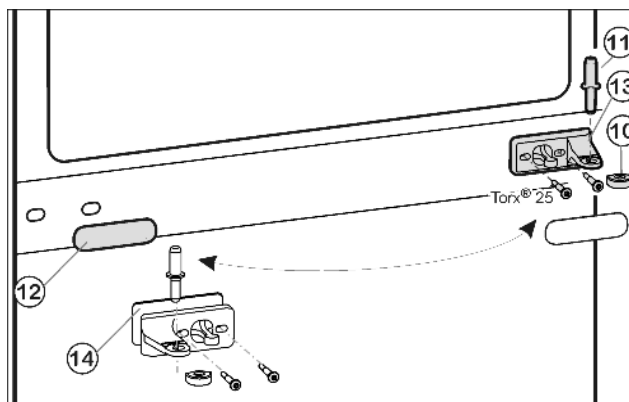
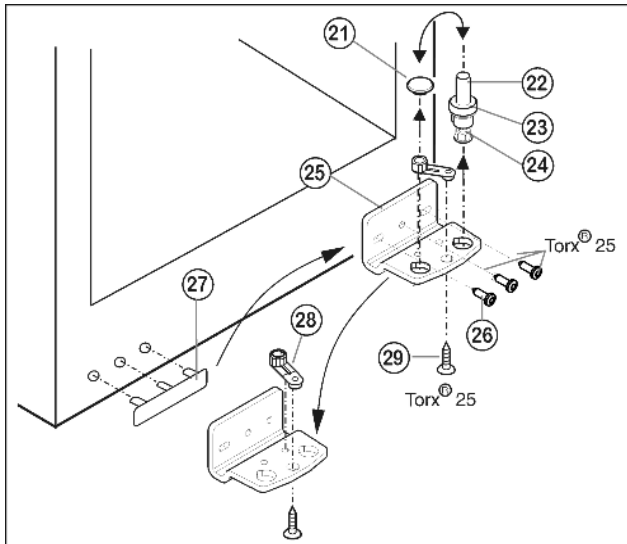

Fig. 5
Fig. 6
- ▶ Draw the middle bearing pin Fig. 5 (11) out of the turn hinge and lower door.
- ▶ Remove the plastic cap Fig. 5 (10).
- ▶ Unscrew the middle turn hinge (2x Torx® 25). Fig. 5 (13)
- ▶ Carefully detach the cover panel Fig. 5 (12).
- ▶ Turn the middle turn hinge Fig. 5 (13) with the washer Fig. 5 (14) through 180° and screw it firmly into place on the new hinge side (**with 4 Nm**).
- ▶ Turn the cover panel Fig. 5 (12) through 180° and snap it into place again on the new handle side.
- ▶ Lift out the bearing pin Fig. 6 (22) together with washer Fig. 6 (23) and foot Fig. 6 (24).
- ▶ Lift off the stopper Fig. 6 (21).
- ▶ Unscrew Fig. 6 (26) the turn hinge Fig. 6 (25).
- ▶ Unscrew Fig. 6 (29) the bearing element Fig. 6 (28), transfer it to the opposite location hole of the turn hinge and screw it firmly into place.
- ▶ Carefully lift off the cover on the handle side Fig. 6 (27) and transfer it to the opposite side.
- ▶ Screw the turn hinge Fig. 6 (25) firmly into place on the new hinge side, possibly using a cordless screwdriver (**with 4 Nm**).
- ▶ Re-insert the stopper Fig. 6 (21) into the other hole.
- ▶ Re-insert the bearing pin Fig. 6 (22) together with washer and foot. In so doing, pay attention that the locating lug points backwards
- ▶ Place the lower door from above onto the lower bearing pin Fig. 6 (22).
- ▶ Place the plastic cap Fig. 5 (10) back onto the middle turn hinge Fig. 5 (13).
- ▶ Place the middle bearing pin Fig. 5 (11) in the lower door, on the new hinge side, through the middle turn hinge Fig. 5 (13).
- ▶ Place the upper door on the middle bearing pin Fig. 5 (11).
- ▶ If necessary, align the doors to the appliance housing by way of the two oblong holes in the bottom turn hinge Fig. 6 (25) and middle turn hinge Fig. 5 (13). To do so, unscrew the middle screw in the bottom turn hinge Fig. 6 (25).